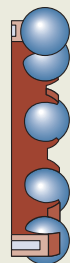

Fig. 27
- are available in the RIS 2 series (fig. 27, table 1)